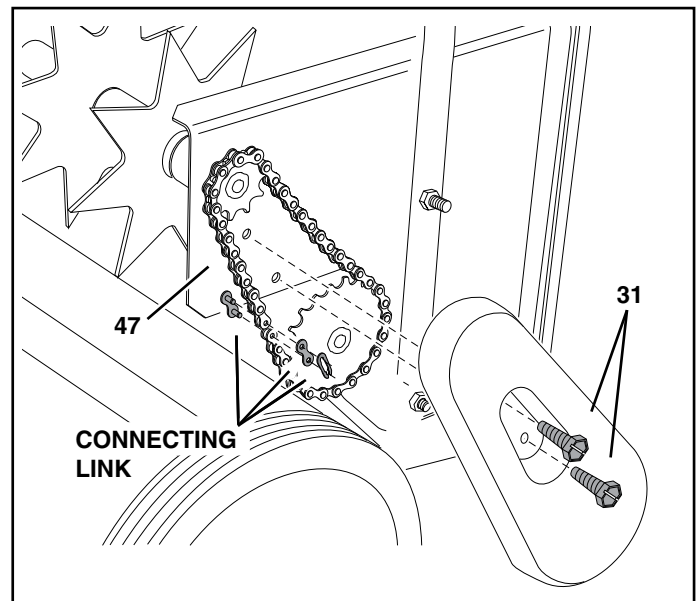

FIGURE 24
- Remove connecting link from chain and assemble the chain (47) onto the two sprockets on the left side of the hopper. Fasten the ends of the chain together using the connecting link. See figure 24.
- Place the chain cover over the chain and fasten it to the hopper end plate using two self tapping screws (31). See figure 24.